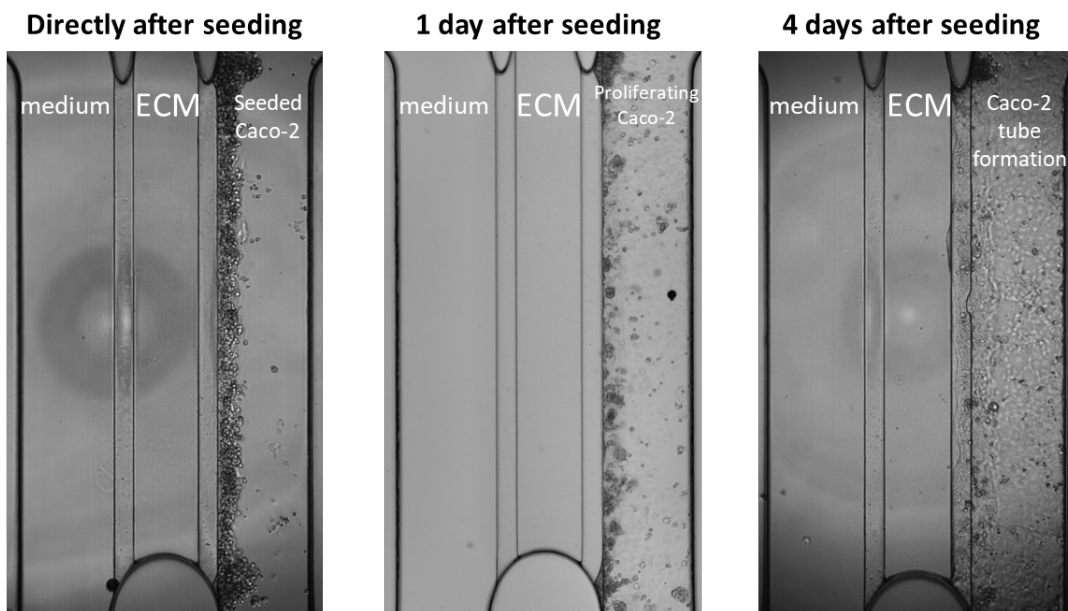

Figure 8: Caco-2 cells form a tubule against an ECM gel in the OrganoPlate® 3-lane 64
a. An example of a tubule culture against ECM in the OrganoPlate® 3-lane is shown in figure 8.